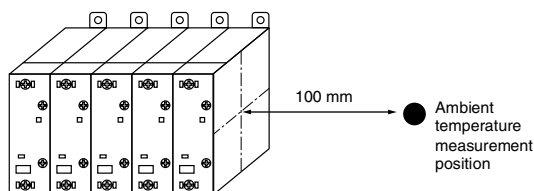
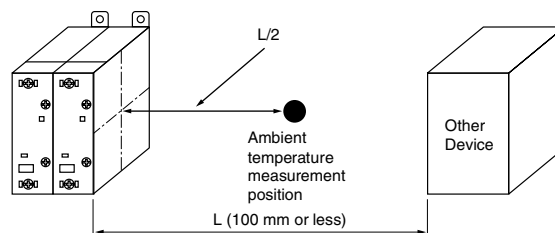
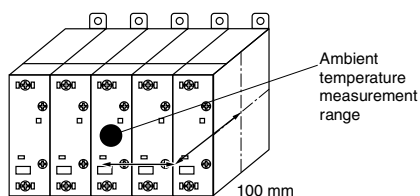

Figure 1: Basic Measurement Position for Ambient Temperature
Figure 2: Measurement Position when a Duct or Other Device is Present
Figure 3: Measurement Position when Side Temperature Cannot be Measured
2. Refer to *Figure 1* for the measurement position. If there is a duct or other equipment within the measurement distance of 100 mm, refer to *Figure 2*. If the side temperature cannot be measured, refer to *Figure 3*.